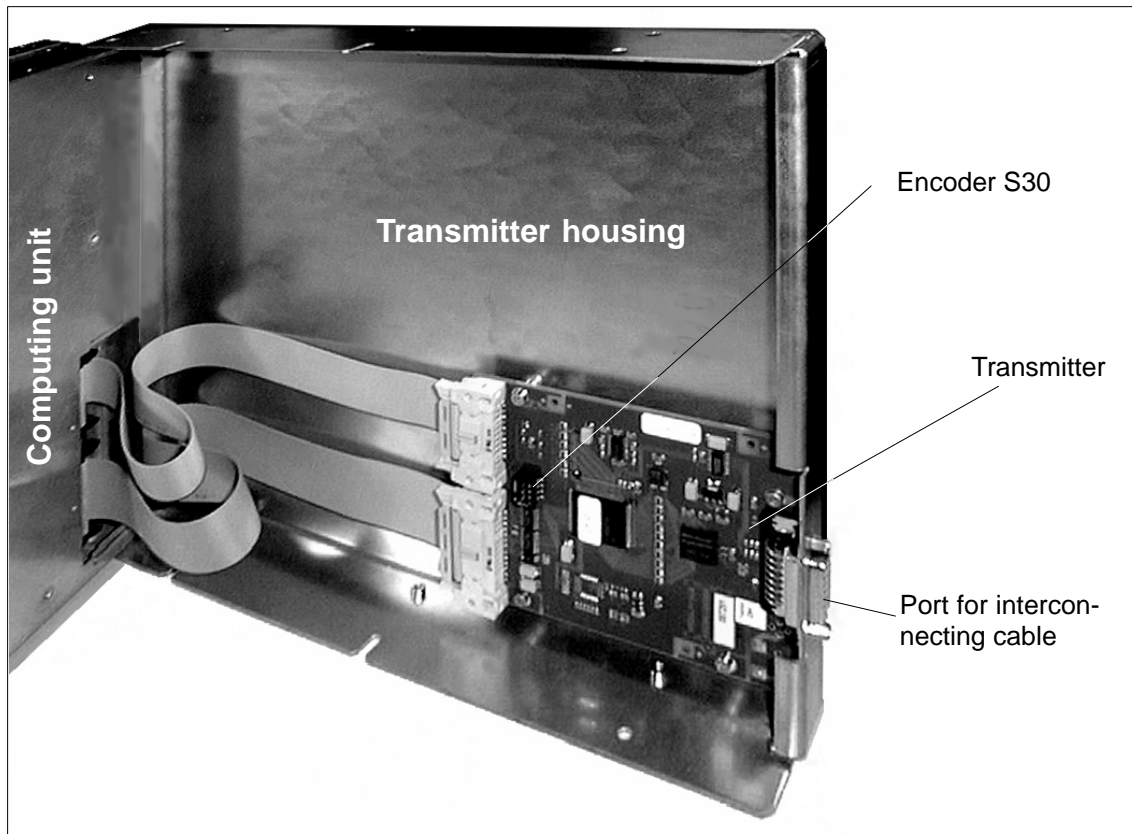

Figure 8-4 Transmitter in swung-open transmitter housing
You can see the fitted transmitter pcb in Figure 8-4.
3. Swing back the transmitter housing from the computing unit (Figure 8-4).